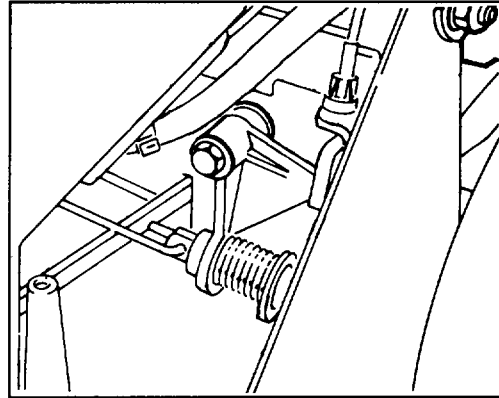

Figure 26
4. Remove any debris that may have accumulated in area behind panel (Fig. 26).
5. Reinstall vertical panel. Secure panel screen to mower deck with (2) 1/2" self tapping screws.